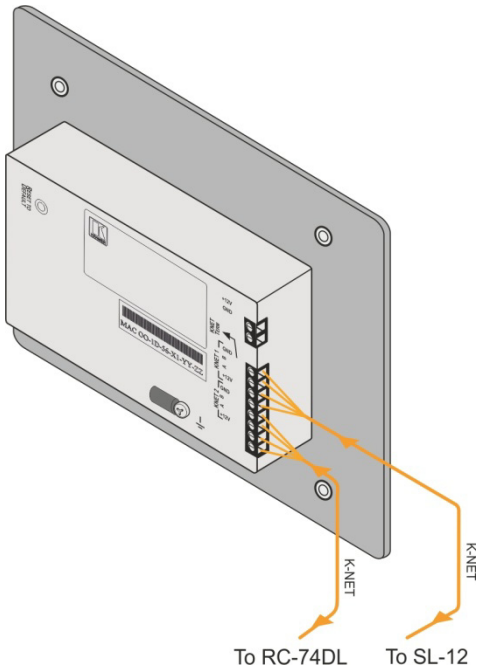

Figure 3: Connecting the RC-54DL
To connect the **RC-54DL**, as shown in the example in Figure 3, do the following:
2. Connect the 12V DC power adapter to the **RC-54DL** power socket and to the mains electricity (not shown in Figure 3).